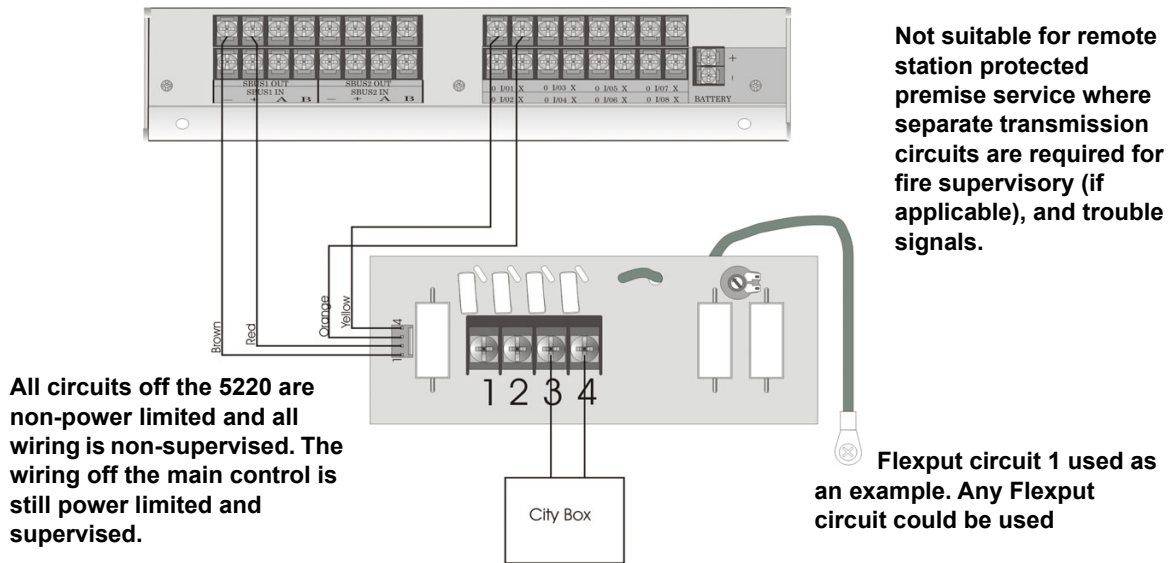

Figure 4.57 City Box Connection
2. Wire the 5220 to the control panel as shown in Figure 4.57. This drawing also shows how to connect the city box coil to terminals 3 and 4 on the 5220. Do not install an EOL resistor in the terminals of the Flexput circuit used for this application.